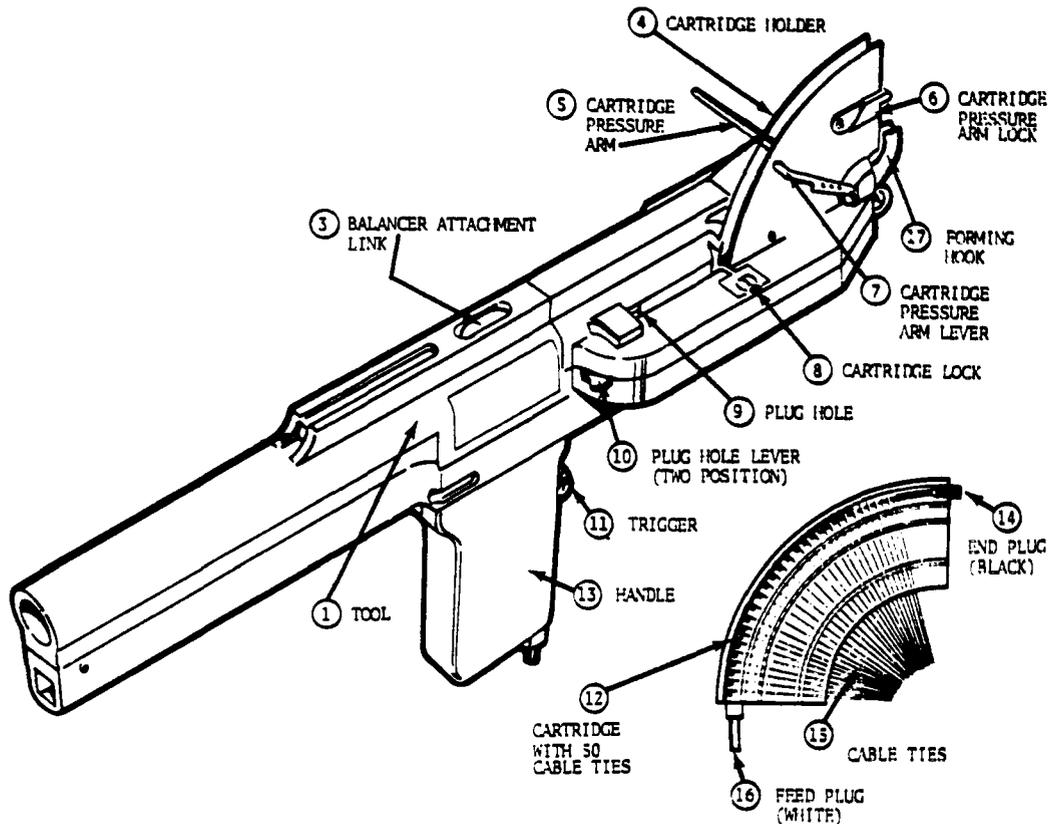

FIG. 13 R-4412 L2 PNEUMATIC BANDING TOOL (PAR. 6.51, 6.61)
- 6.51 The R-4412B Cable Tie Cartridge (50 ties) should be loaded on the R-4411-L2 Tool ① in the following manner: (Refer to FIG. 13) Set the tool in a horizontal position with the cartridge holder ④ to the right side and the handle ⑬ toward the operator.
- 6.61 To remove an empty cartridge, simply release the cartridge lock ⑧ and lift the empty cartridge out of the tool. (Refer to FIG. 13). Follow the cartridge loading procedure when reloading.